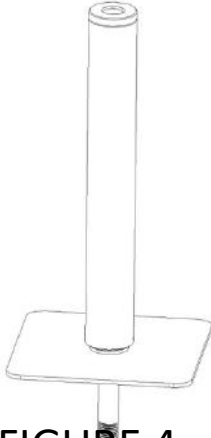

FIGURE 4
STEP 4: You are now ready to begin installing in the boat. Start by screwing the seat riser with kingpin clockwise into the receiver in the deck of your boat until tight as seen in FIGURE 4.